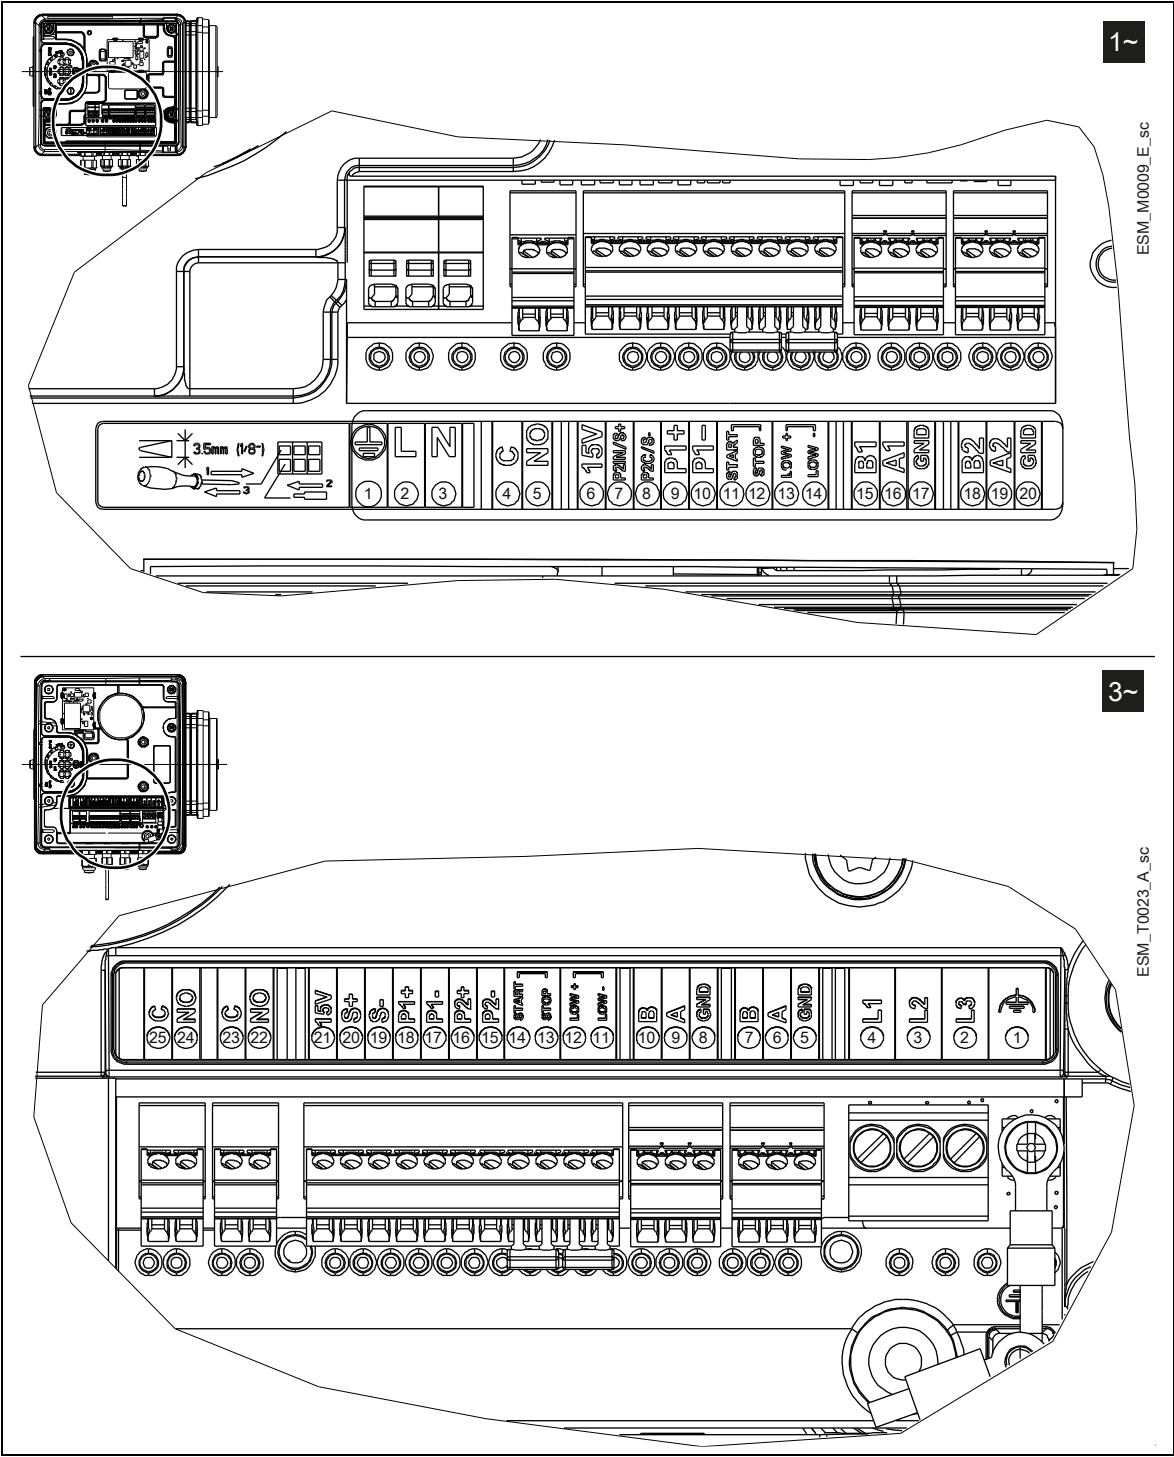

Figure 13: Connection label
2. Connect the cable according to the wiring diagram.	Fig. 13